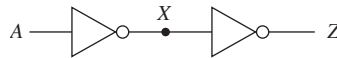
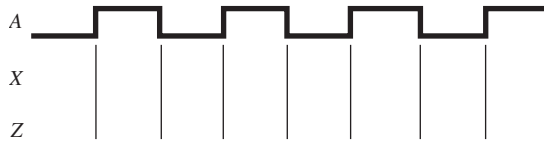

Figure P26
Figure P27
26. For Figure P26, write the Boolean equation at X and Z . If $A = 0$, what is X ? What is Z ?
27. Using Figure P26, sketch the output waveform at X and Z if the timing waveform shown in Figure P27 is input at A .